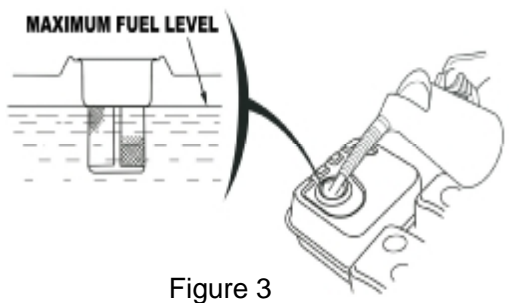

Figure 3
- (1) Screw off the fuel tank cap and check fuel level.
- (2) If fuel level is too low, add fuel until its level reaches the shoulder of the fuel strainer in the fuel filler hole (see Figure 3).
- (3) When fuelling is completed, screw on and tighten the fuel tank cap.